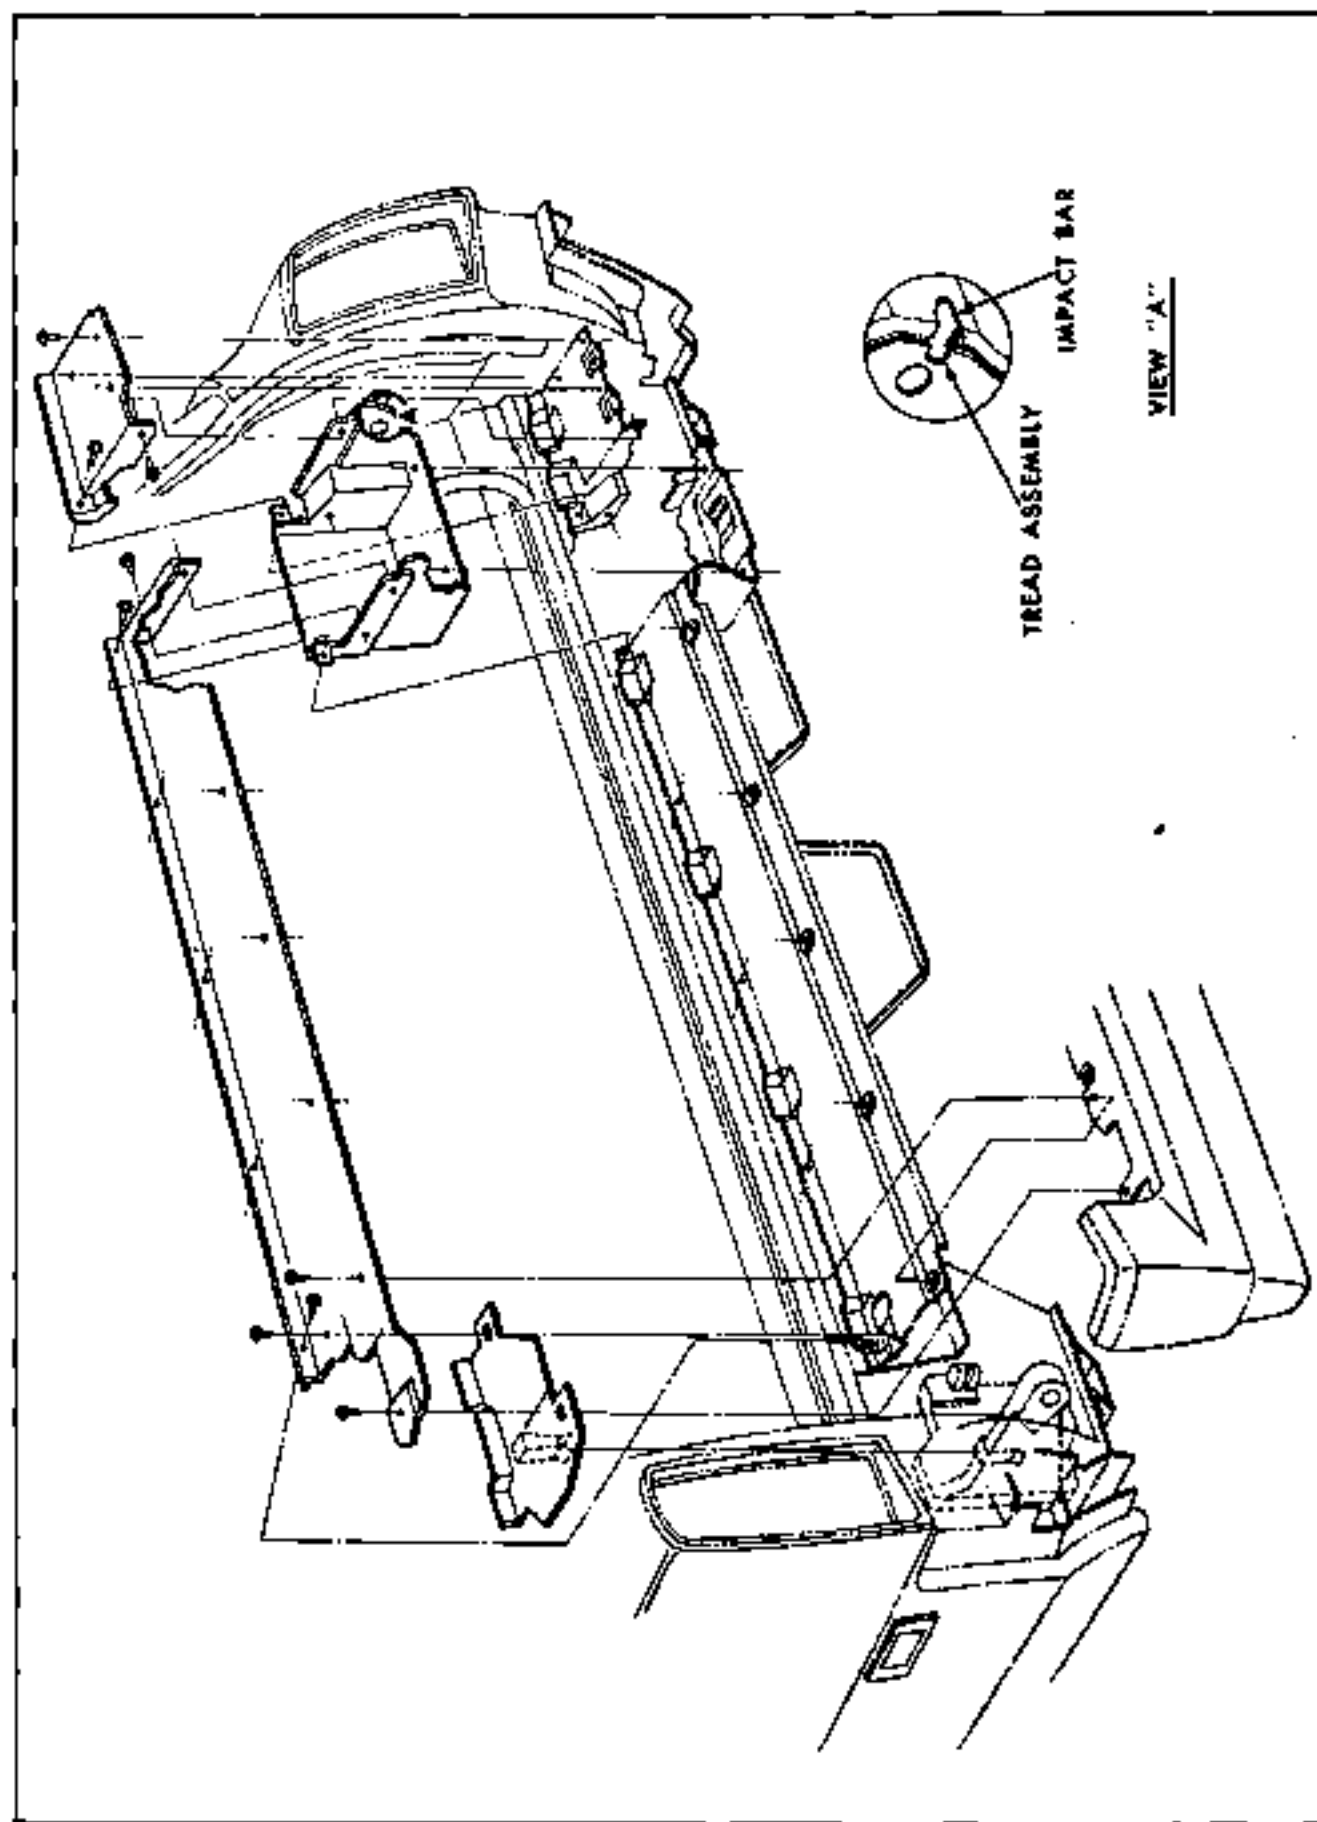

Fig. 14-8 Pontiac Station Wagon Tread Assembly
1. Remove screws from step treads (Fig. 14-8).